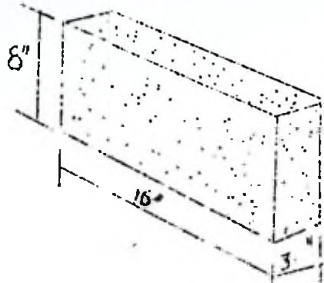

FIG. 1
2. Tap top stringer (see Fig. 1) lightly to unloosen from cross piece.
- a. Use 6-8-10 method of squaring building. See Fig. 1